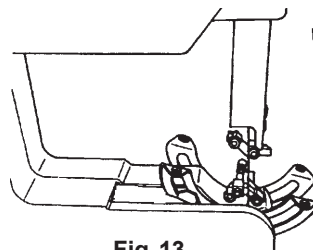
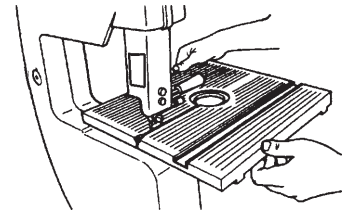

Fig. 13
Fig. 14
12. Position the trunnions (37) at approximately 25 degrees and lock them. Fig. 13 shows the exposed trunnions. Hold the table (87) perpendicular to the blade, and mount the table on the Bandsaw, as demonstrated in Fig. 14. Make sure the table leveling bolt (89) and the table insert (95) are removed.